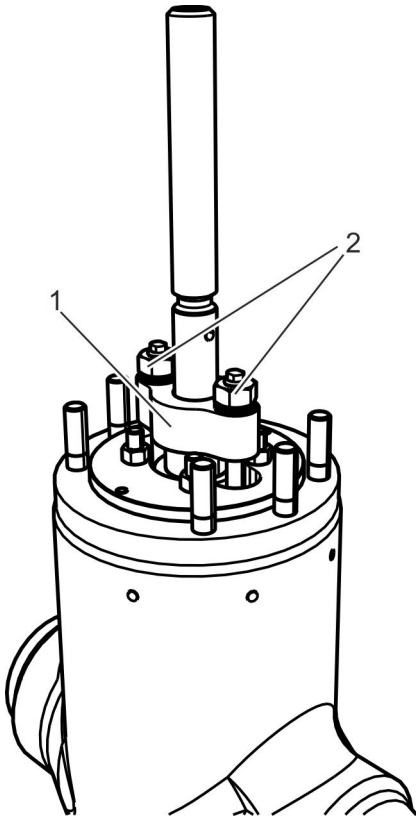

Fig. 22: Mounting the gland follower flange
15. Attach the gland follower flange (Fig. 22/1) and bolt on uniformly with nuts (Fig. 22/2) as specified by the manufacturer.